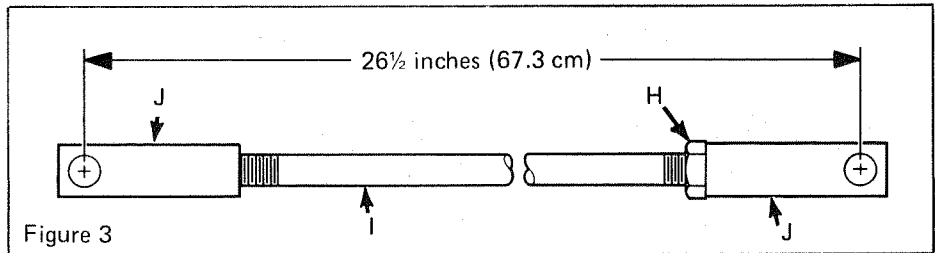

Figure 3
3. Turn a 5/8" (15.9 mm) hex jam nut "H" Fig. 3, onto one end of each push rod "I". Turn a clevis "J" onto each end of both rods.